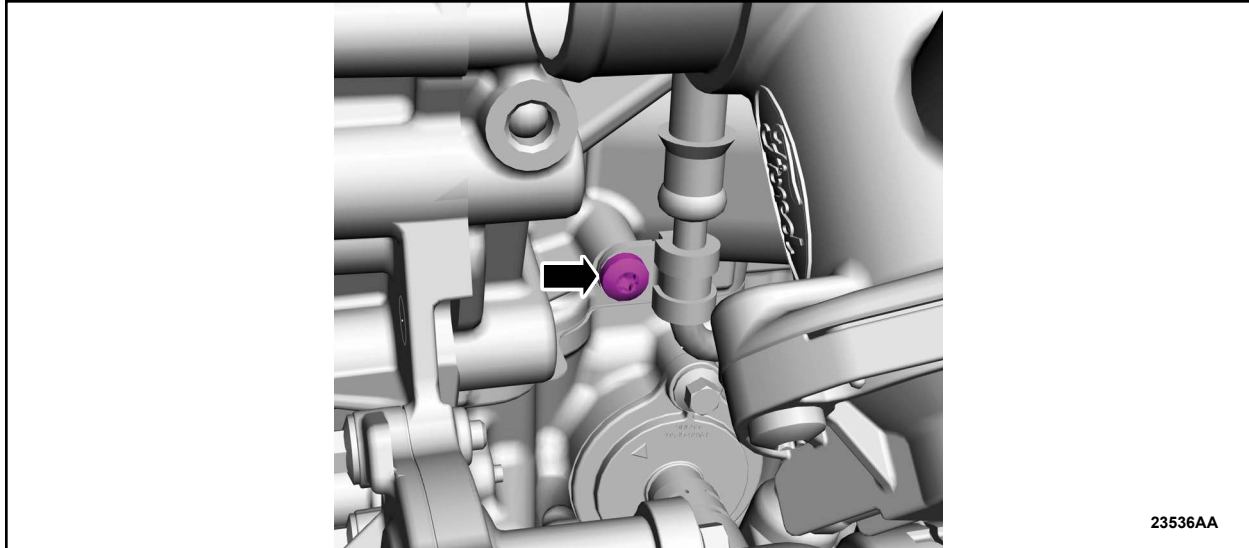

FIGURE 31
38. Tighten the bolt. See Figure 31.